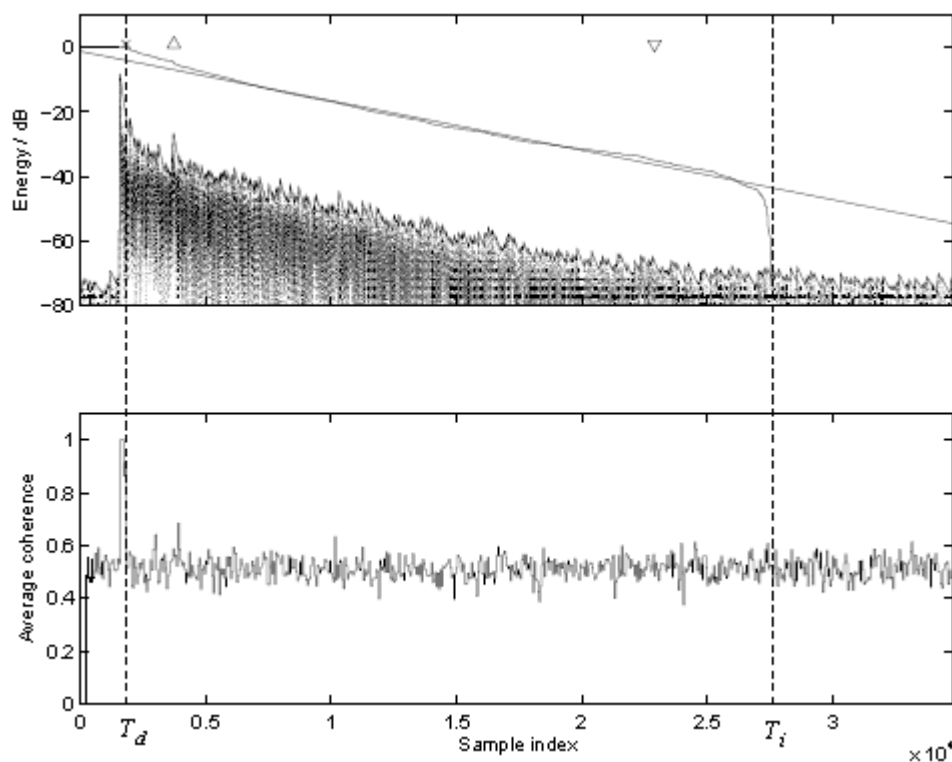

Fig. 6 An example of Schroeder integration with the limits T_i and T_d
- The time before the t_{trig} marker during which the Svantek instrument measures the actual sound pressure level and waits for the very high impulse sound pressure level that will meet the trigger condition. The trigger conditions are only met when the emitted pulse has a maximum sound pressure level higher than the L_t level (cf. Fig. 6). The L_t level in the Svantek instrument is adjusted by the **Level** item value (path: <Menu> / Measurement / RT60 Settings).